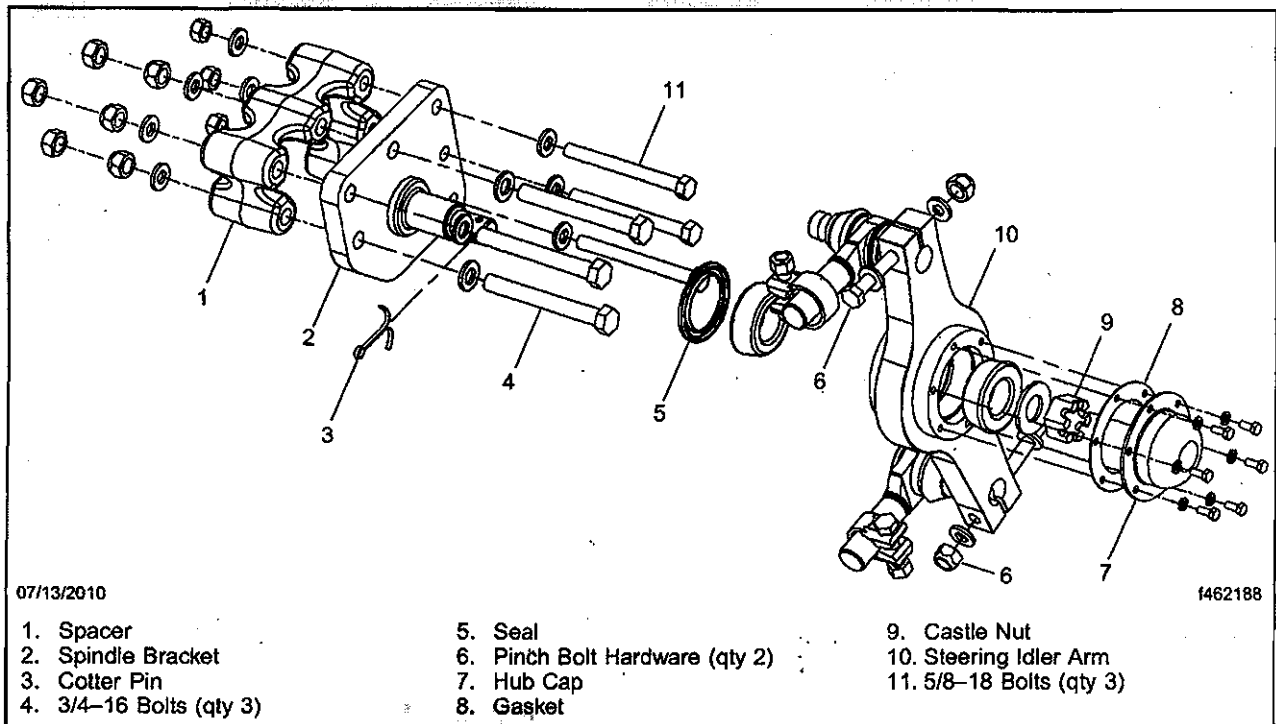

Fig. 3, Steering Idler Arm Assembly and Installation
8. Remove the hub cap and gasket from the steering idler arm assembly. See Fig. 3. Discard the gasket.
20. Using three 5/8-18 bolts and three 3/4-16 bolts, install the new spacer and spindle bracket assembly on the frame rail. See Fig. 3 for bolt locations.
21. Coat the spindle with grease. Using a new rubber seal, loosely install the idler arm on the spindle bracket. See Fig. 3.
25. Install a new gasket and the hub cap on the idler arm assembly. See Fig. 3. Tighten the hexhead capscrews 15 lbf-ft (20 N-m).